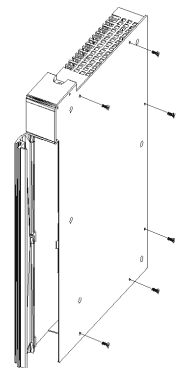

Figure 2. Disassemble Module
2. **Disassemble Module.** Remove and save the six screws on the perimeter of the module plate using a Phillips screwdriver. Do not remove the three screws in the upper left corner of the plate. See Figure 2 for proper orientation of the plate.